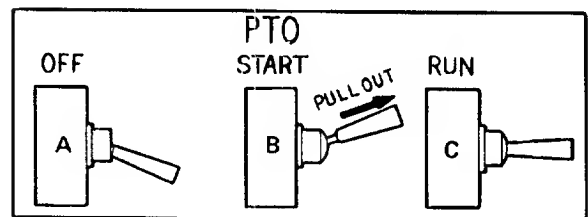

Figure 19
2. Flip the toggle switch to the "RUN" position. (See Figure 19.)
5. PTO switch must be in the "OFF" (A) position when shifting the tractor into reverse or the PTO